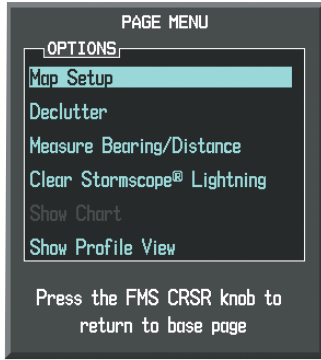

Figure 6-159 Navigation Map Page Menu
- 3) With 'Map Setup' highlighted, press the **ENT** Key (Figure 6-159).